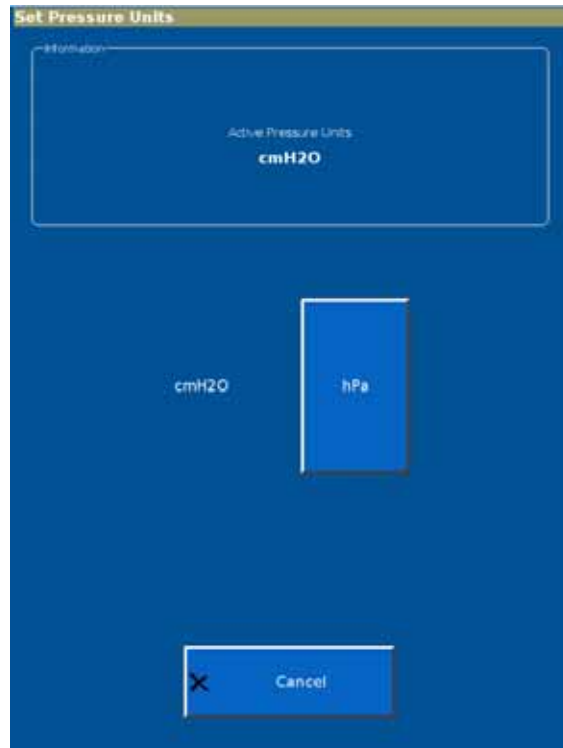

Figure F-6: Set Pressure Units screen
1. From the **System Settings** screen, select **Pressure Units** to display the **Set Pressure Units** screen (Figure F-6).